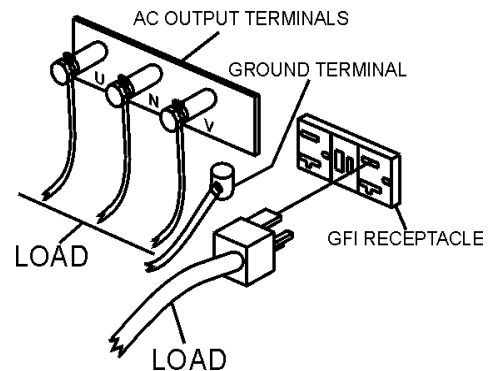

Figure 38. UVW Terminal Lugs (Load)
2. Once it is determined if commercial power is required, connect the load to the UVW terminals as shown in Figure 38. These terminals can be found on the output terminal panel, see page 21, Figure 9. To gain access to the output terminals lift the UVW cover. Make sure to tighten terminal nuts securely to prevent load wires from slipping out.